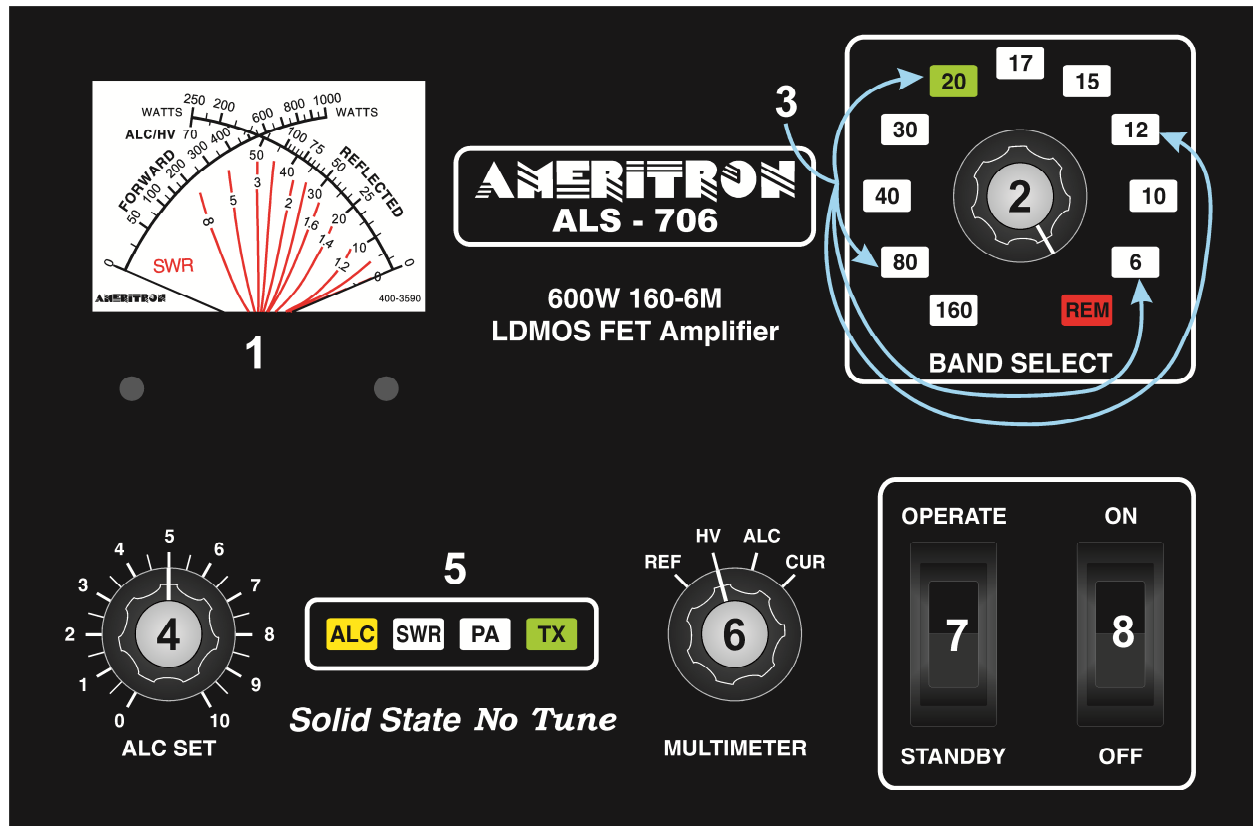

Figure 2 Front Panel
The meter's left scale-arc (Figure 2, ref 1) continuously indicates forward peak envelope power (PEP) output directly in watts. PEP has no fixed relationship to long-term average power except, for constant amplitude carriers like a steady CW carrier, when PEP and average powers are equal. PEP is the highest average power during one (or more) radio frequency cycle(s) at the modulation envelope crest.
This amplifier covers all Amateur Radio frequencies below 54 MHz, as restricted by FCC or your local governing authority. Once you have established proper connections, please set the amplifier BAND SELECT control (Fig. 2, ref 3) to one of the following bands:
Place the **MULTIMETER** switch (fig. 2, ref. 6) in the **HV** position. The multimeter is the right-side scale on the panel meter (fig. 2, ref. 1), and reads on the 0-70 right scale bottom. Find 50 on the scale. HV reading should be approximately 50 volts whenever the amplifier is ON. Any voltage above the Forward arc crossing is unsafe.
Place the **ALC SET** control (fig. 2, ref. 4) full clockwise (10 on knob scale). This sets ALC to engage at maximum possible power, which effectively will disable the ALC for initial testing.
With the **STANDBY/OPERATE** switch (fig. 2, ref. 7) on **STANDBY**, turn the power switch (ref. 8) **ON**.
There will be a short delayed “click” from the power supply. **HV** (fig. 2, ref. 1) should immediately rise to near full scale after the “click”. The meter and the appropriate **BAND** LED (fig. 2, ref. 3) should illuminate.
The multimeter’s **HV scale** (fig.2, ref 1, lower right scale arc) should indicate approximately 50 volts. Any voltage above the Forward arc crossing is unsafe.
Rotate the **BAND** switch (fig.2, ref 2 and 3) through all positions. The appropriate **BAND** LED will illuminate, band-filter relays will audibly switch when moving between 160 and 80 meters, 80 and 40 meters, 40 and 30 meters, 20 and 17meters, 15 and 12 meters, and between 10 and 6 meter selector positions. There should be no filter change moving between 30 and 20, 17 and 15, or 12 and 10-meter selections since these band groups share a common filter in each pair.
Set the **BAND** switch (fig. 2, ref. 2) to a band where you have a good 50 ohm high-power load connected.
Change the meter switch (fig. 2, ref. 6) to **REF**. In this position, the multimeter indicates PEP reflected power.
The next objective is to have a steady unmodulated low-power carrier. With no modulation in the FM, AM, RTTY, or CW mode, and with the amplifier still on standby, adjust the exciter’s power to about ten watts. Verify your radio is supplying reduced power, ideally around 10-20 watts carrier (not critical), and that VSWR of **the antenna system** or load is low. There should be almost no deflection on the reflected power scale (Figure 2, ref. 1) with the **MULTIMETER** switch in the **REF** position. If the meter indicates noticeable reflected power, check the RF cables or antenna system.